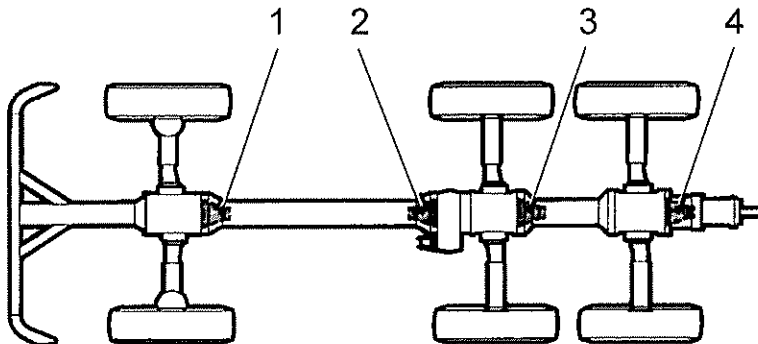

Fig 14 All wheel drive and differential lock actuator housing
- 27 Although there are slight variations in components used in all wheel drive and differential lock actuator housings the method of assembly is the same in all cases (see Fig 14, and 15).